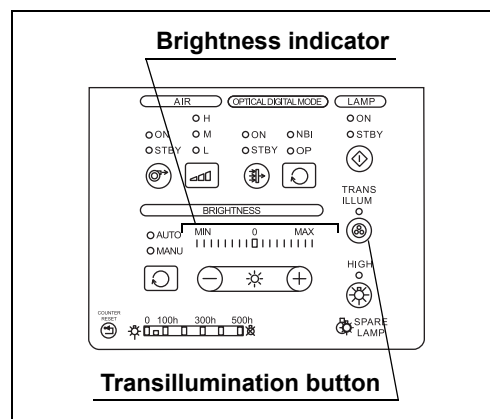

Figure 4.17
- 2 Confirm that the transillumination button blinks, and the brightness indicator indicates the maximum level (see Figure 4.17). The examination light changes to the maximum intensity for about 7 seconds.